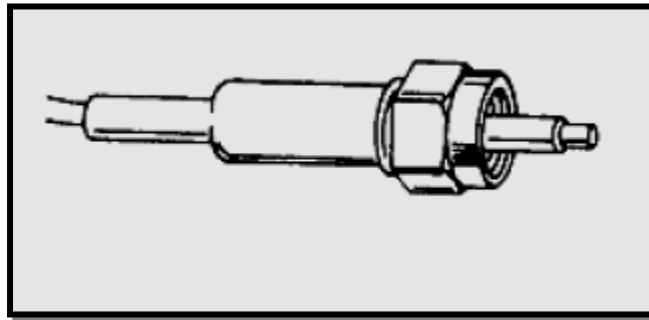

Figure 2-118. SMA Style Connector
**SMA CONNECTORS.** SMA (Sub-Miniature, Type A) Connectors, originally designed by Amphenol, use a threaded coupling nut without a keying device. The two basic types are the 905 style and 906 style. The 905 uses a straight ferrule and the 906 has a step-down nose to allow use of plastic alignment bushings for maximum alignment. Originally designed with a steel ferrule for multimode applications, they are now available with ceramic ferrules for single-mode applications. The primary problems that arise with the use of SMA connectors are crushing due to over tightening of the threads, and repeatability of alignment because of the lack of a keying device. Refer to figure 2-118.